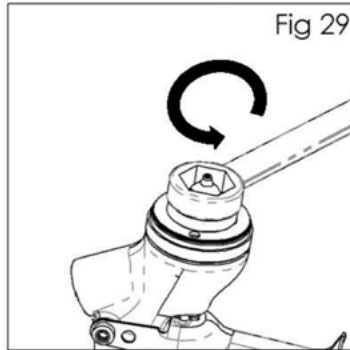

Fig 29
4. Remove fluid nozzle using a 10mm wrench. (See fig 29).